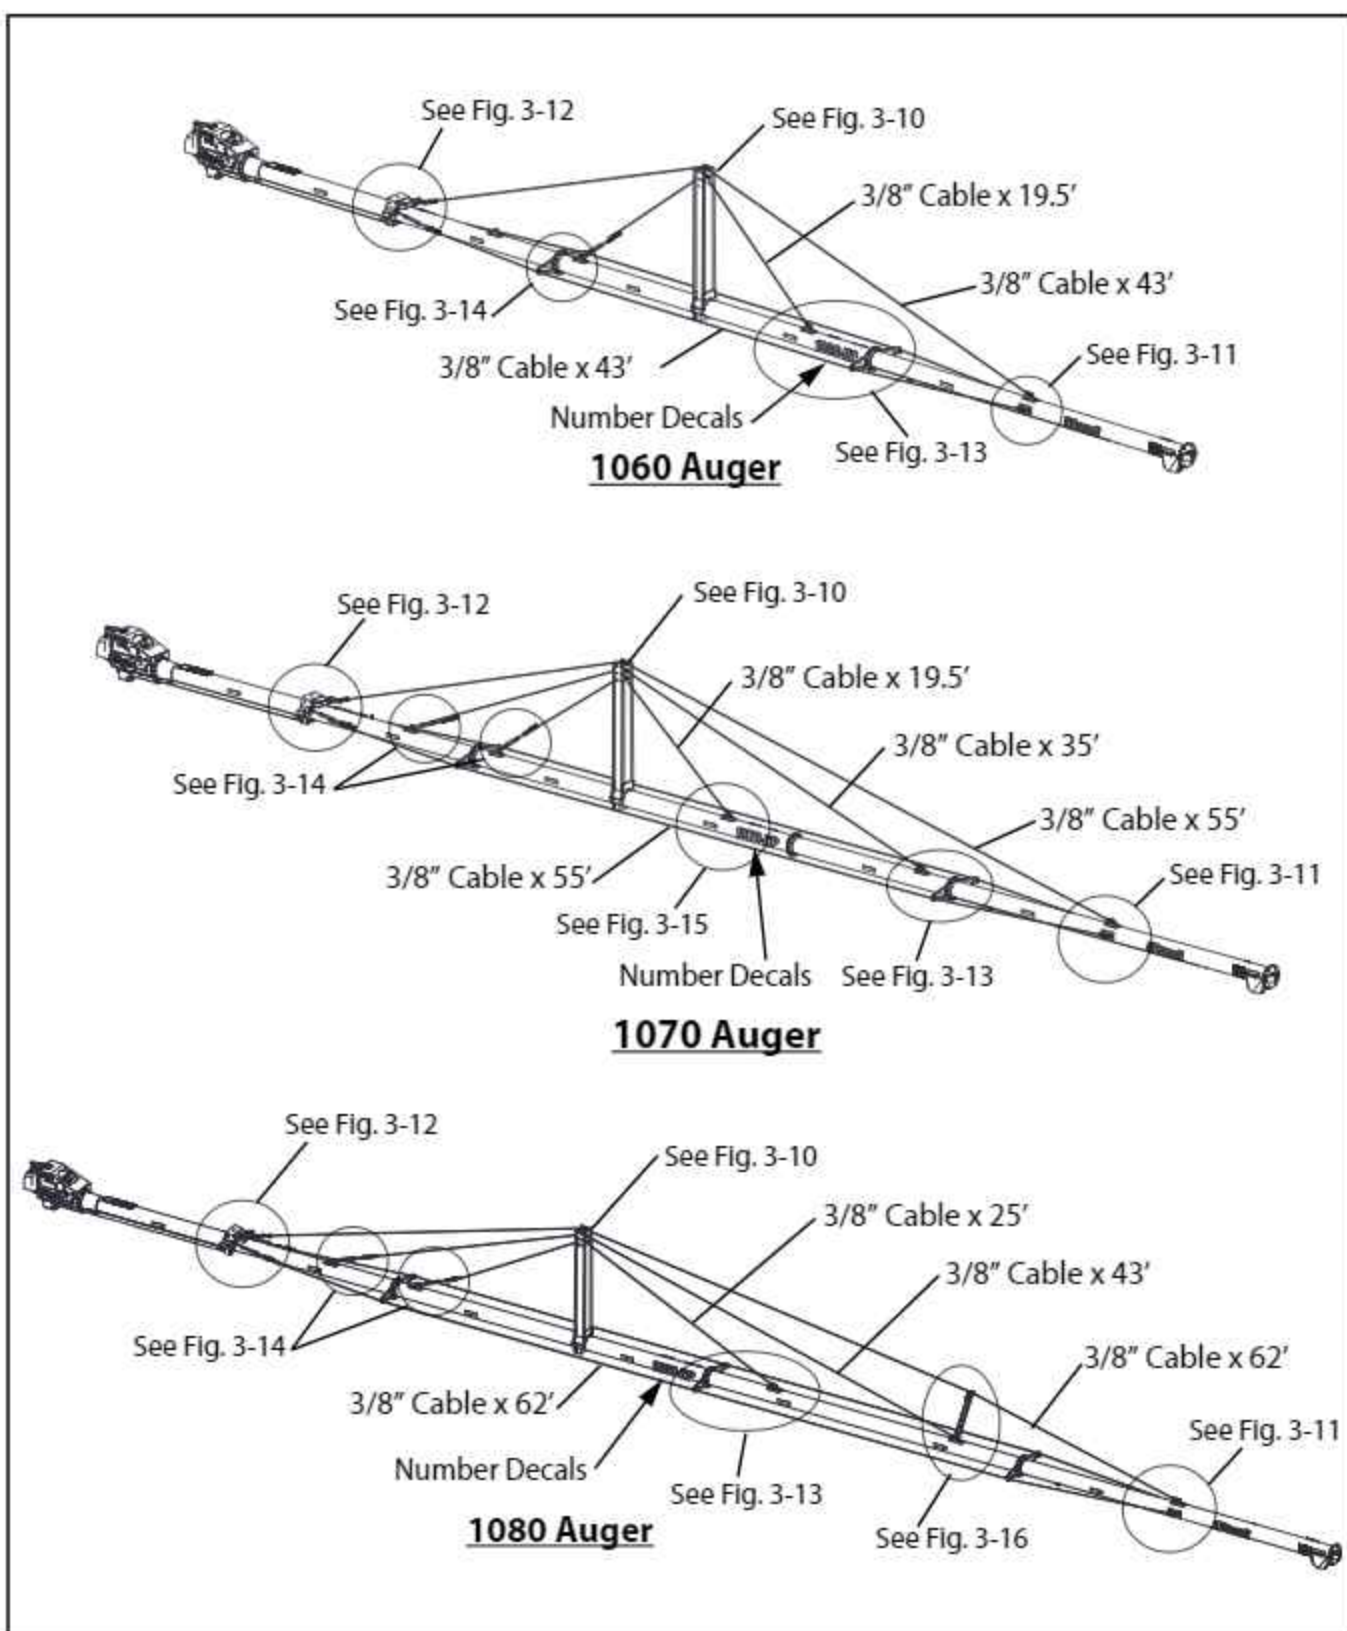
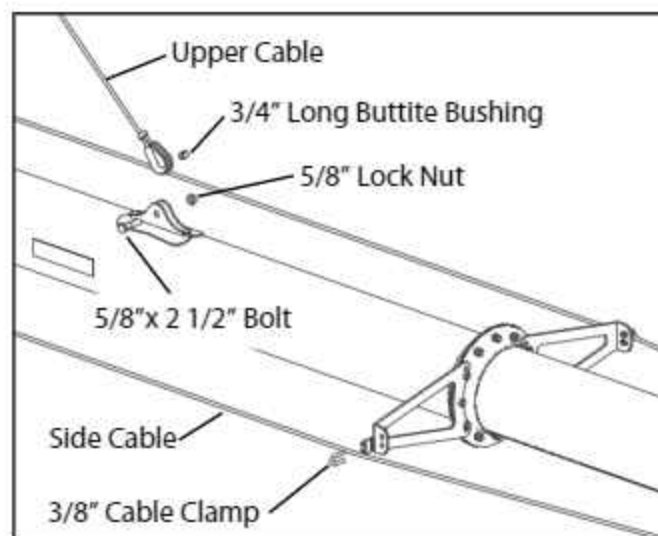
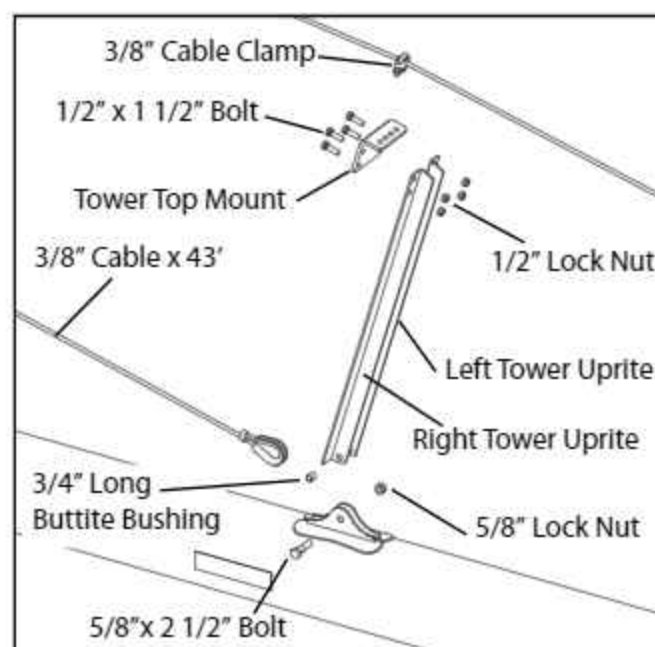

FIG. 3-9. Installing the Truss Cables
FIG. 3-13. Truss Cable Mounting
FIG. 3-16. 1080 Short Truss Tower Installation
11. Loosely install a 3/8" cable clamp into each of the Lateral Cable Mounts as shown in Fig. 3-13.
16. Attach the looped end of the 19.5' truss cable to the mount close to the Lateral Cable Mounts, as shown in Fig. 3-13.
17. Route the cable through the cable clamp on the lower plate of the truss tower and down to the mount on the tube closest to the Truss Tower. Do not tighten the cable clamp yet. See Fig. 3-9.
21. Clean the area on the tube shown in Fig. 3-9 and apply the number decals.
16. Attach the looped end of the 35' truss cable to the mount close to the Lateral Cable Mounts, as shown in Fig. 3-13.
17. Route the cable through the cable clamp on the middle plate of the truss tower and down to the middle mount on the tube. Do not tighten the cable clamp yet. See Fig. 3-9.
22. Route the cable through the cable clamp on the lower plate of the truss tower and down to the mount on the tube closest to the Truss Tower. Do not tighten the cable clamp yet. See Fig. 3-9.
26. Clean the area on the tube shown in Fig. 3-9 and apply the number decals.
5. Assemble the Short Truss Tower and the looped end of the 43' truss cable to the mount on the tube shown in Fig. 3-9 and Fig. 3-16. Use the fasteners shown in Fig. 3-16.
possible and install a clamp about 12" from the centre of the eye bolt. Install a second clamp as close as possible to the cable thimble. Install a third clamp half way between the other two. See Fig. 3-9 for the proper clamp orientation.
12. Loosely install a 3/8" cable clamp into each of the Lateral Cable Mounts as shown in Fig. 3-13.
17. Route the 43' cable through the cable clamp on the middle plate of the truss tower and down to the middle mount on the lower tube. Do not tighten the cable clamp yet. See Fig. 3-9.
21. Attach the looped end of the 25' truss cable to the mount shown in Fig. 3-9 and Fig. 3-13.